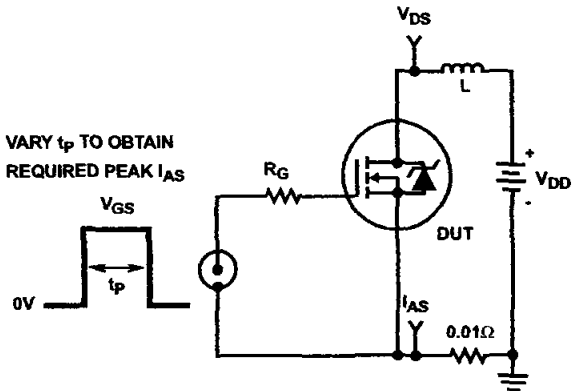

FIGURE 15. UNCLAMPED ENERGY TEST CIRCUIT
4. $V_{DD} = 25\text{V}$, starting $T_J = 25^\circ\text{C}$, $L = 440\mu\text{H}$, $R_G = 25\Omega$, peak $I_{AS} = 28\text{A}$. (Figures 15, 16).